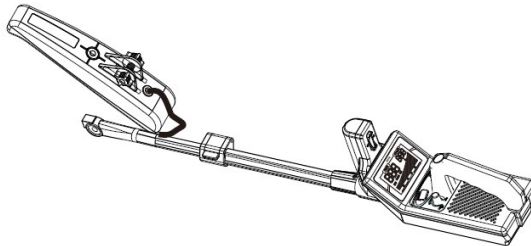

Figure 11
- 2) Gently take out the receiver tray and receiver host. Do not pull the connection cable on the receiver tray with strong force. (See Figure 11)